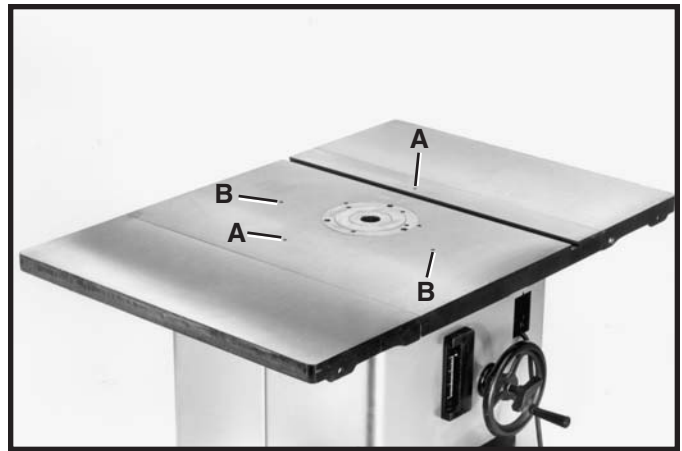
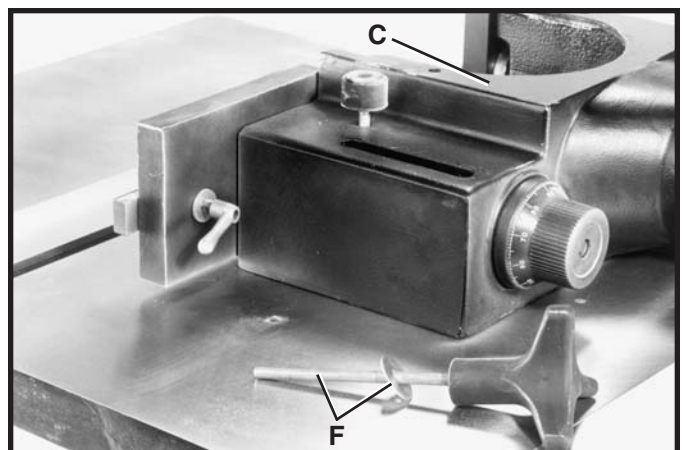

Fig. 14
Fig. 18
1. The fence on this shaper can be mounted parallel to the miter gage slot using two holes (B) Fig. 14, or 90 degrees to the miter slot by using two holes (A). The following illustrates mounting the fence parallel to the miter gage.
4. Locate the two fence locking handles and washers, one of which is shown at (F) Fig. 18, and fasten fence body (C) to one of the set of holes located on the shaper table illustrated in Fig. 14.